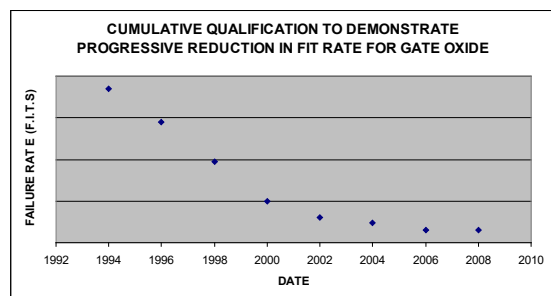

Fig. 6 IGBT gate-oxide failure rate
It is clear from the equation (2) that higher value of device hours (TD) gives low value of failure rate. Hence in order to accumulate high number of device hours, large number of devices in test is required and or much longer time for the test. This form of statistics is acquired over a number of years of regular testing of the product. This process is illustrated in the Figure 6 for the gate-oxide failure rate. The unknown parameter in equation (1) is the activation energy (Ea). It is a constant in the Arrhenius equation and is related to the kinetics of the underlying physical process under temperature stress. This constant is experimentally determined.